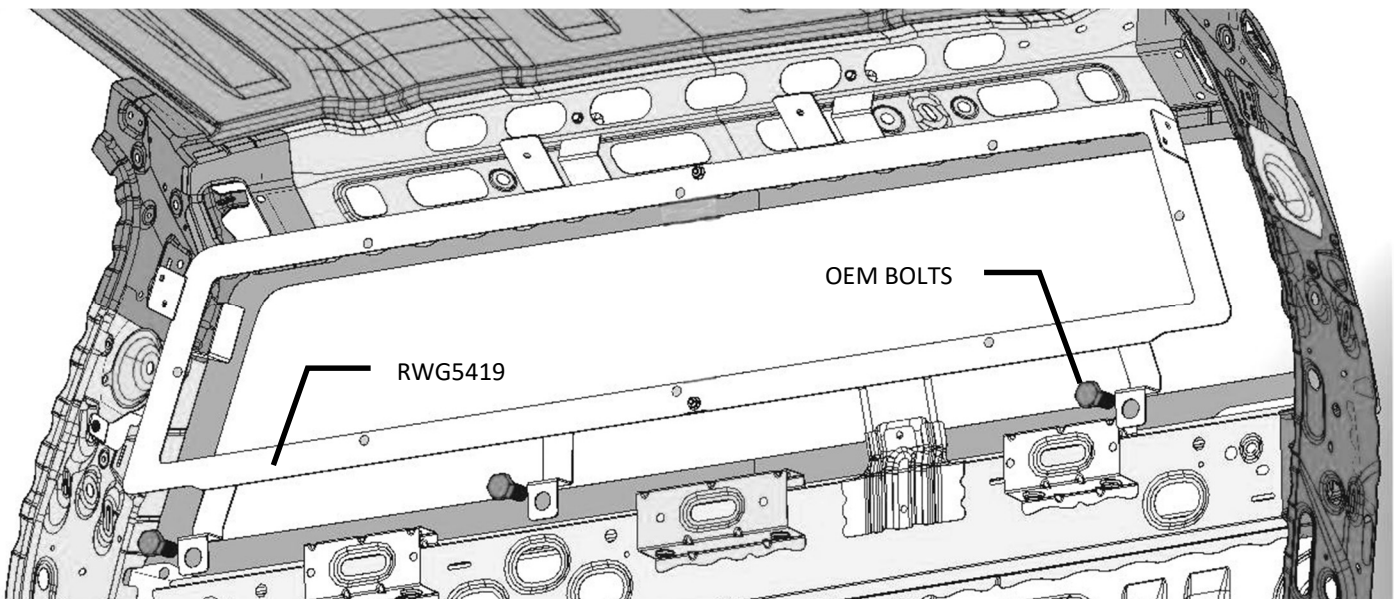

Figure 5
- L. Remove lower (3) 18mm OEM bolts and seat back/tie down OEM brackets.
- M. Install frame [RWG54SIL19] by aligning to lower bolt holes and fastening loosely using the OEM bolts.(Fig. 5)